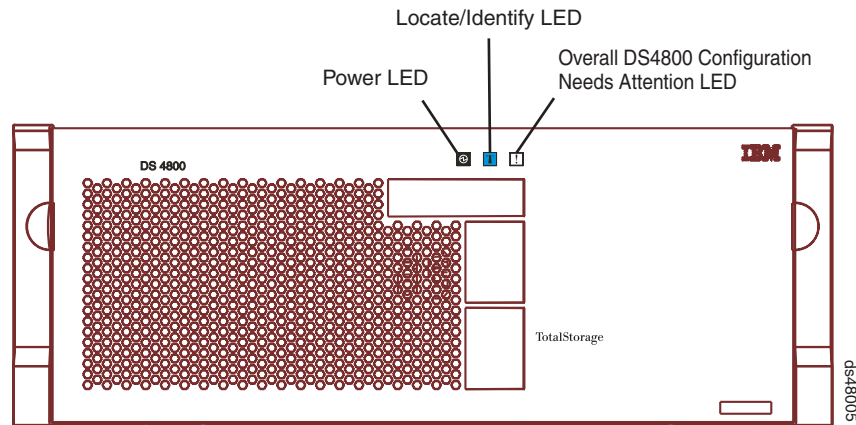

Figure 98. Overall DS4800 Configuration Needs Attention LED on the DS4800 front bezel
2. Locate the storage subsystem that contains the interconnect-battery unit with the failed battery by checking the Overall DS4800 Configuration Needs Attention LED on the front bezel of the storage subsystem. (Figure 98 on page 163 shows the location of the Overall DS4800 Configuration Needs Attention LED on the front bezel.)